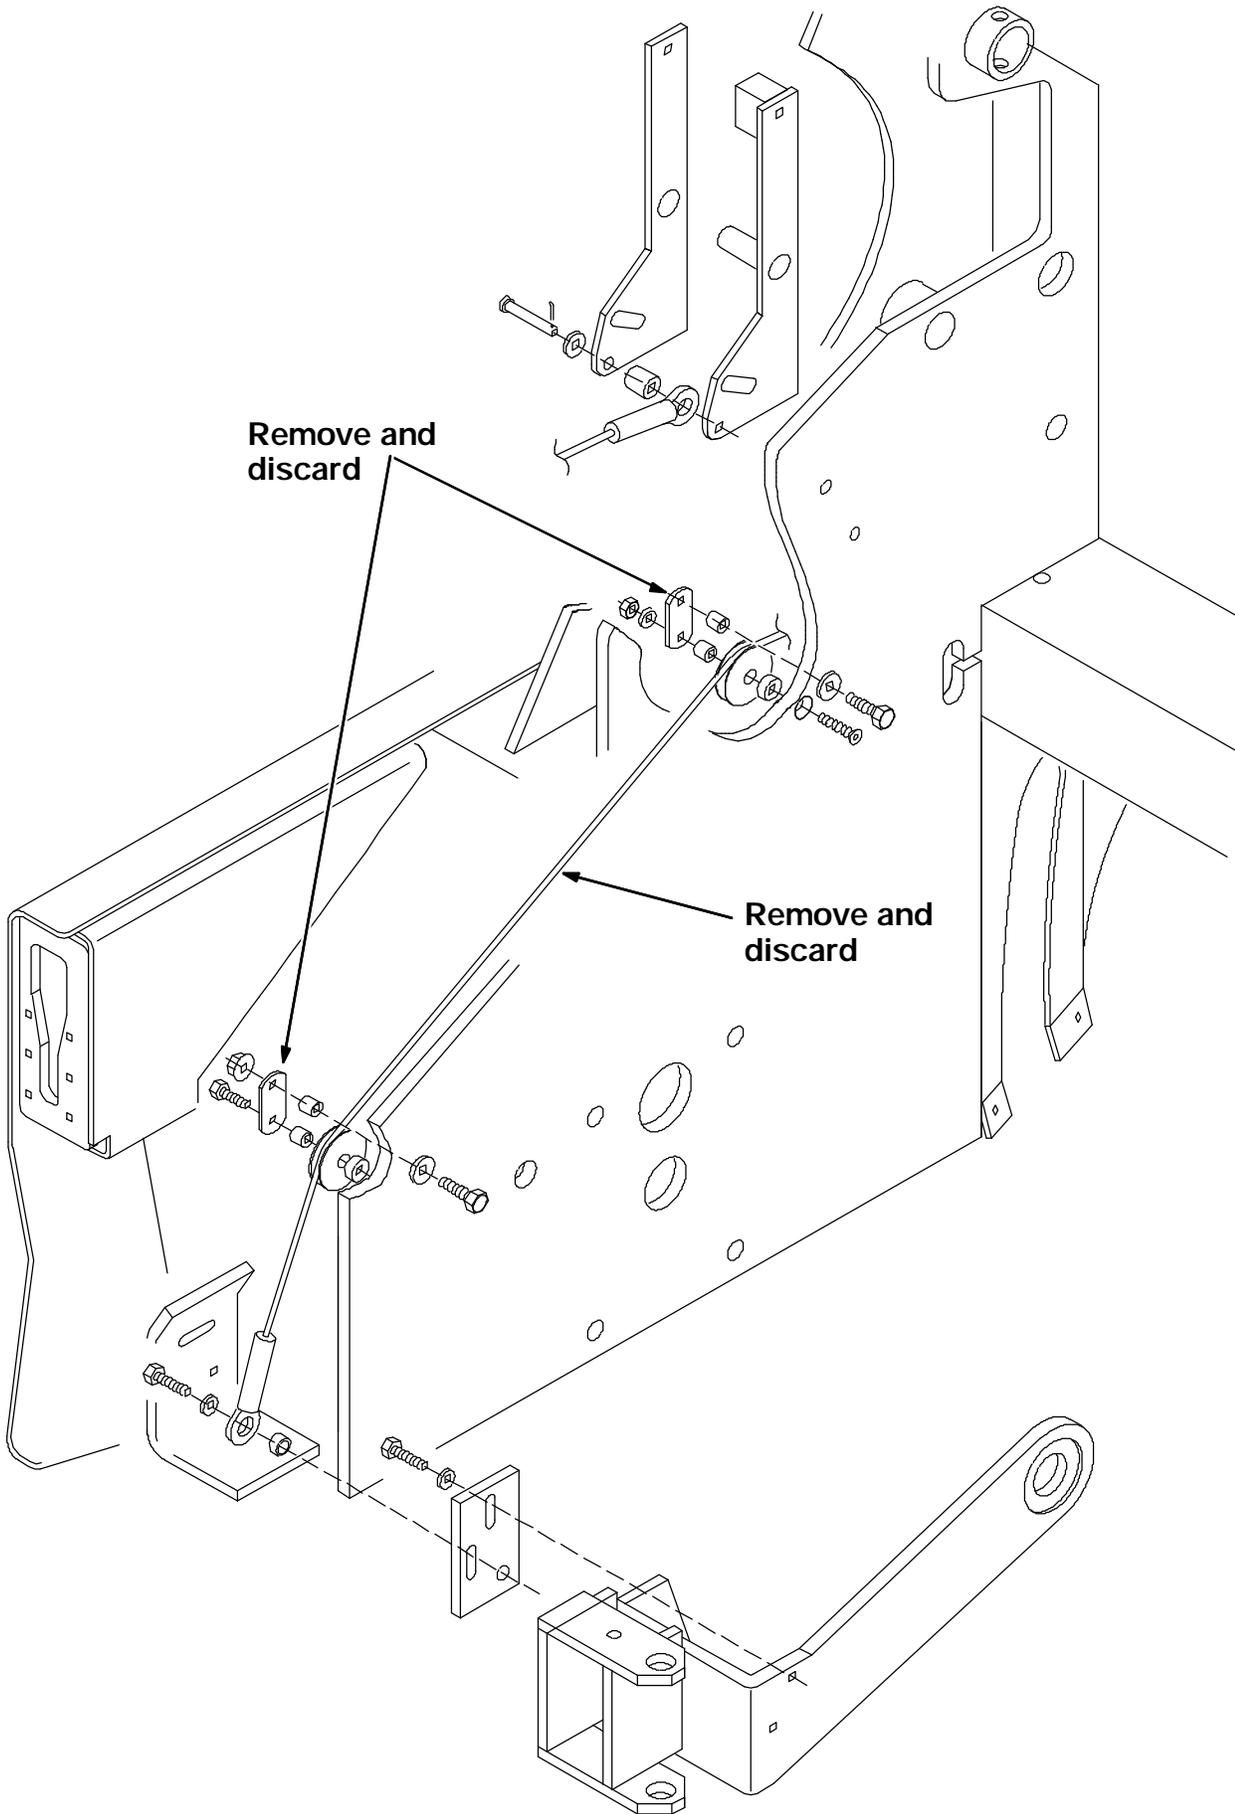

FIG. 1 - Existing Side Brush Lift Cable Assembly
(Refer to FIG. 1)
3. Remove and discard the existing side brush cable (77568) and the two side brush cable pulley plates. (Refer to FIG. 1)
4. The slot in the frame, where the side brush cable goes through, must be widened to a minimum of 1.75 inch. This will allow clearance for the new side brush cable connecting hardware. (Refer to FIG. 1)
5. Install the two new side brush cable pulley plates (7) and the existing pulleys. (Refer to FIG. 1)
6. Install the shorter cable (1) on the bracket near the side brush lift cylinder and machine lintel. (Refer to FIG. 1)
7. Install the longer cable (2) on the bracket down at the side brush assembly. (Refer to FIG. 1)
8. Connect the two cables (1 and 2) together near the area of the frame slot. Use the bolt (6), spacer (5), washer (4), and lock nut (3). (Refer to FIG. 1)